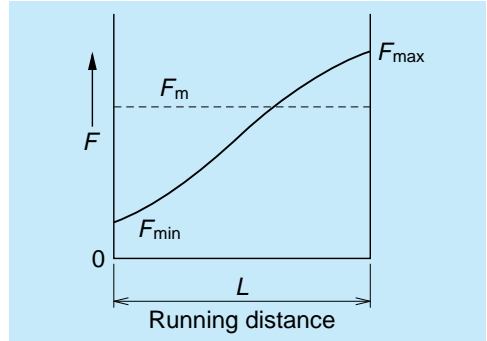

Fig. II-3-5 Simple variable load
② When load changes almost linearly (Fig. II-3-5)